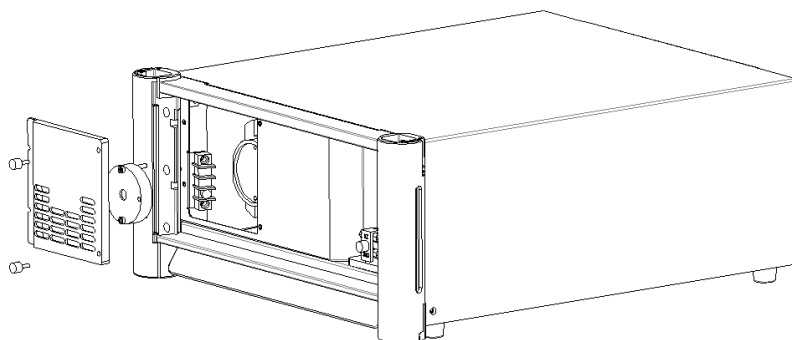

Figure 5-2 Remove the lamp cap
- 2) Remove the inner lamp cap, as shown in Figure 5-2.